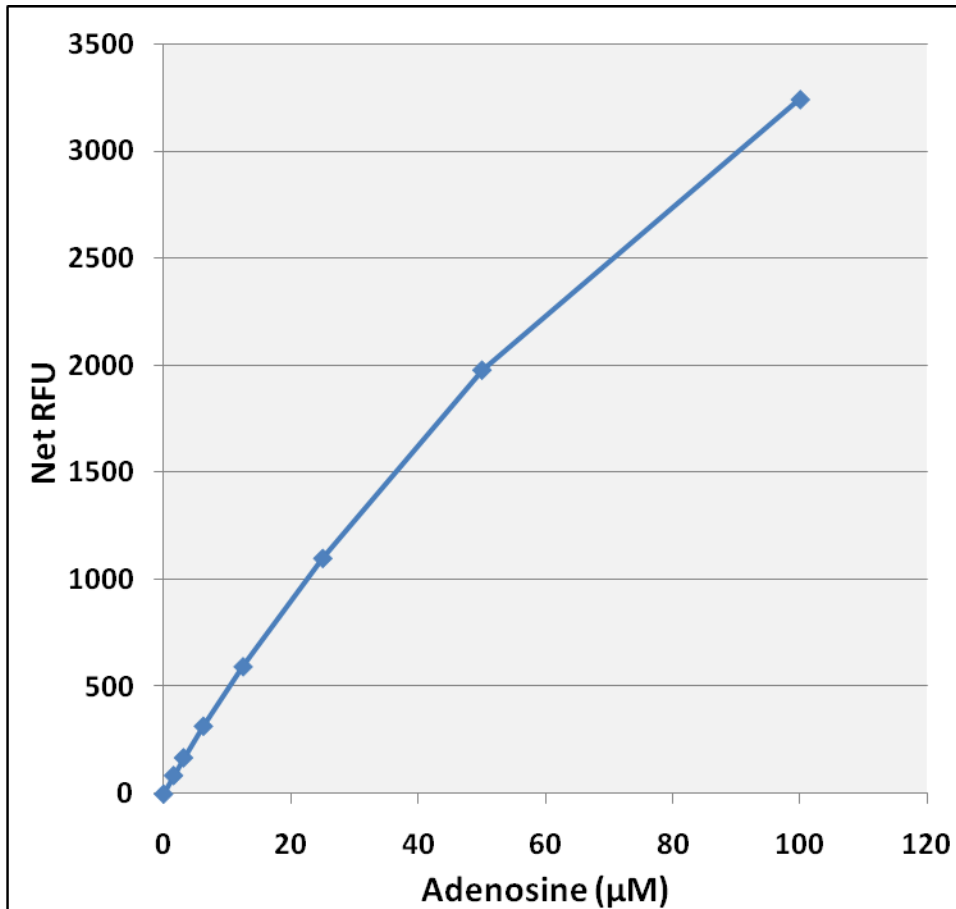

Figure 2: Adenosine Standard Curve.
3. Graph the standard curve (see Figure 2).